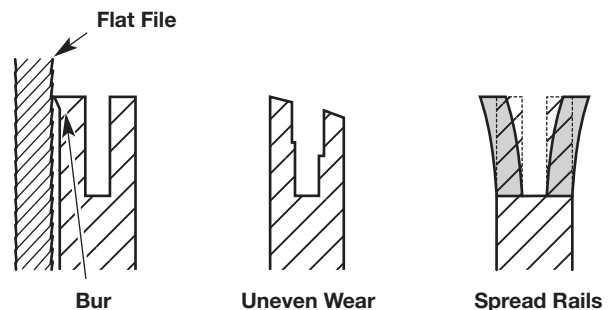

Fig. 43
- Frequently check the guide bar for damage (Fig. 43). Feathering and burring of the guide bar rails (the ridges on either side of the bar groove) is a normal process of guide bar wear. Such faults should be smoothed with a file as soon as they occur (Fig. 43). A guide bar with the following faults should be replaced: